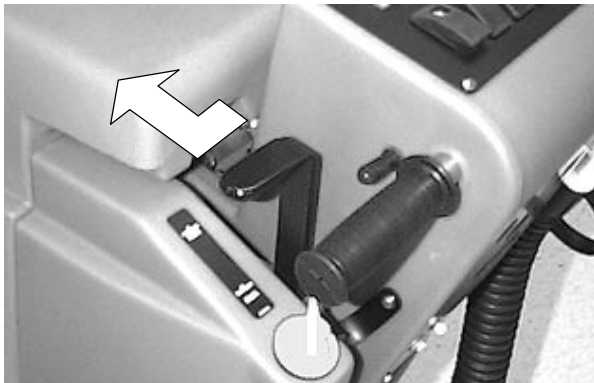

FIG. 12
3. Disengage squeegee lift lever from the up position and lower squeegee (*Figure 12*).